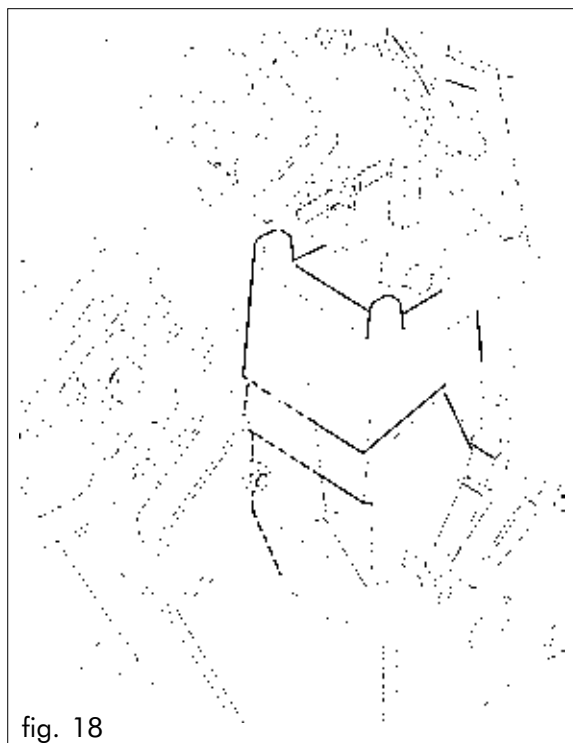

fig. 18
- The coffee group geared motor is activated again so as to return into standby position; during this movement the coffee grounds are expelled (fig.18).